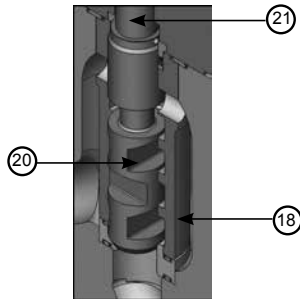

Figure 1: Plug, Liner, and Stem Guiding Surface
Guiding surfaces shown in Figure 1, including the liner (18), valve plug (20), and plug stem (21) must be checked. If there is only slight wear indications, then use a light abrasive to smooth out the specific guiding surface areas. Parts with greater damage or wear on the guide surfaces must be replaced.